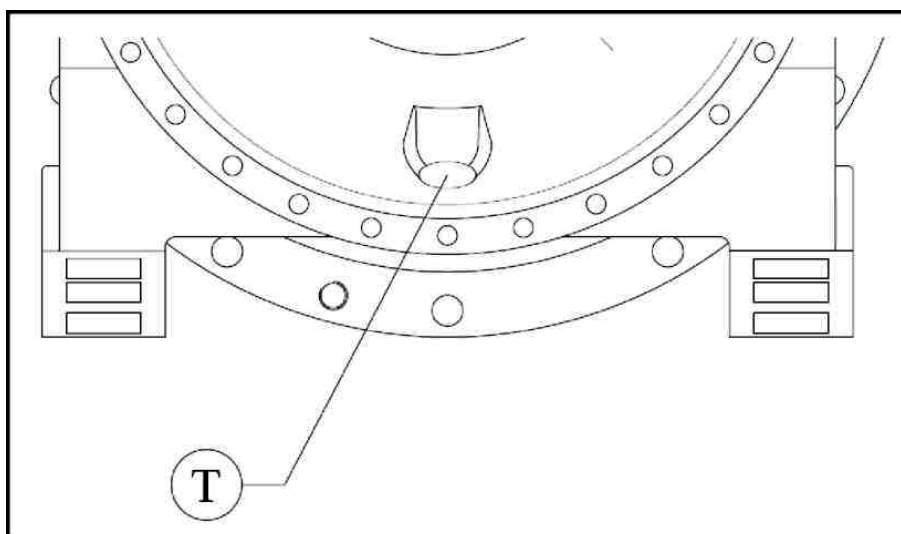

Figure 23: Discharge cap of reducer
- Take off the discharge cap “T” (Figure 23);